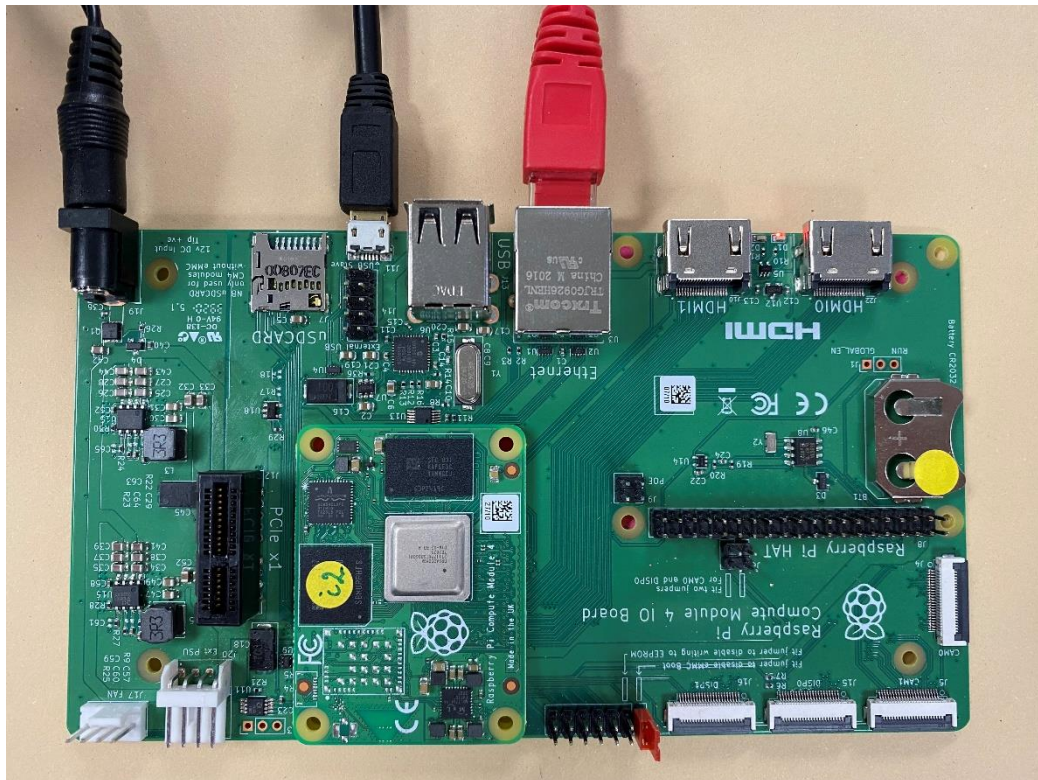

Figure 5 RPI CM4 installed on RPI CM4 IO BOARD with jumper placed and microUSB connected.
1. Install the RPI CM4 on the RPI CM4 IO BOARD, see Figure 5.